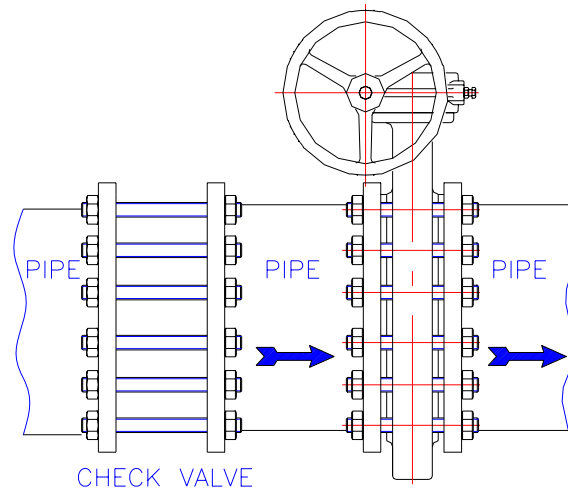

Fig. 17
5.8. Using an extension tube between wafer check valve and butterfly valve, never connect them directly. (Fig.17)